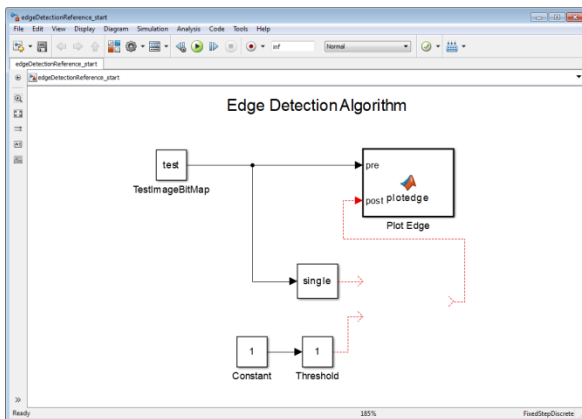

Figure 34: Reference Edge Detection starting model
1. Open the **edgeDetectionReference_start.slx** by double-clicking the file in the *Current Directory* browser (**Figure 34**).